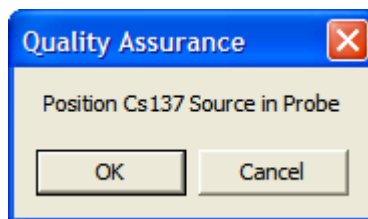

Figure 5-18
- Click the **Start Procedure** button or press *Alt+S* to start the test. The screen appears as shown in Figure 5-18.